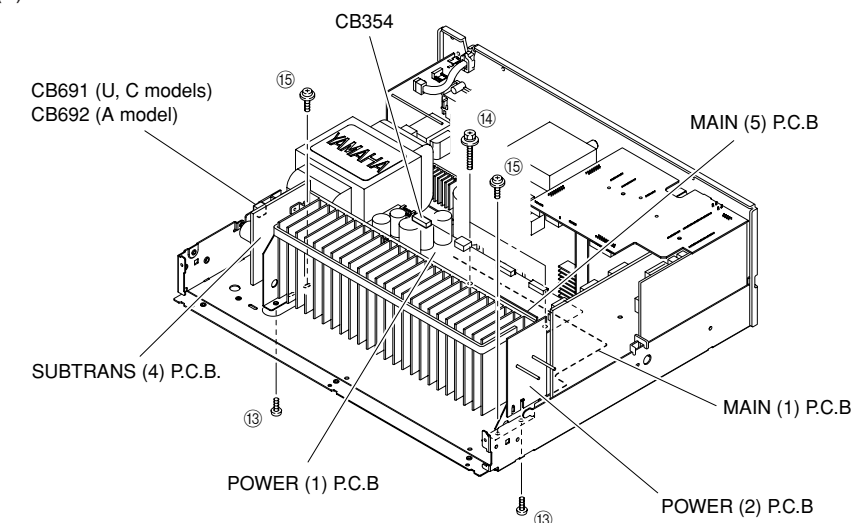

Fig. 7
5. Removal of MAIN (1), (5), POWER (1), (2) and SUBTRANS (4) P.C.B.s
- Remove connector CB354 and CB691 (U, C models)/ CB692 (R, T, K, A, B, G, E, L, J models). (Fig. 7)
- Remove 2 screws (13). (Fig. 7)
- * Arrow marks (→) are printed to identify the screws (13) to be removed.
- Remove 2 screws (14) and 2 screws (15). (Fig. 7)
- Remove the MAIN (1), (5), POWER (1), (2) and SUBTRANS (4) P.C.B.s. (Fig. 7)